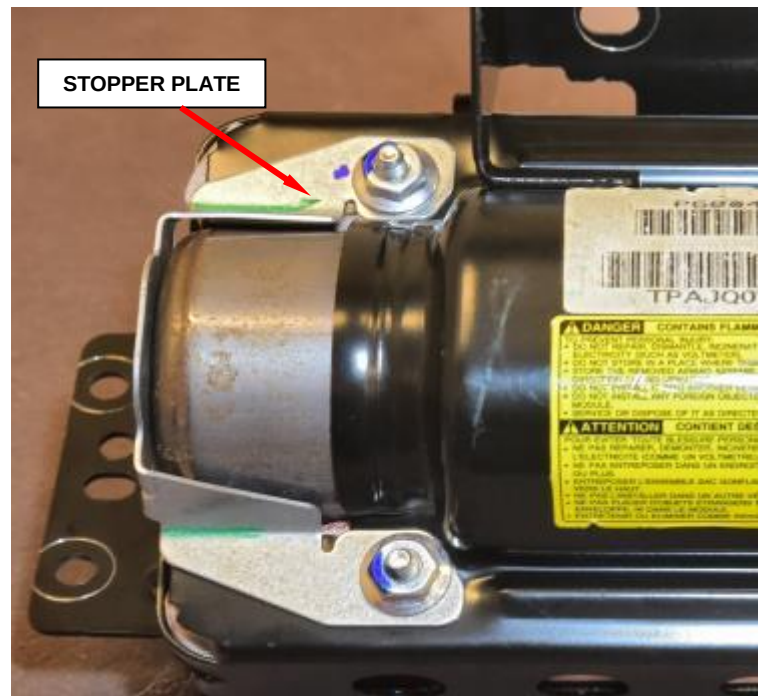

Figure 75 – Stopper Plate
- c. Remove and save stopper plate from housing (Figure 75).
- m. Position the stopper plate to the airbag housing (Figure 75).